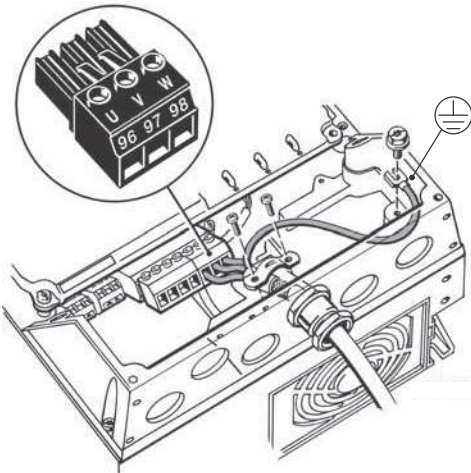

Fig. 22 Motor connection, A4 and A5
1. Connect the earth conductor to terminal 99 (PE). See fig. 22.
2. Connect the motor conductors to terminals 96 (U), 97 (V), 98 (W) of the motor plug.